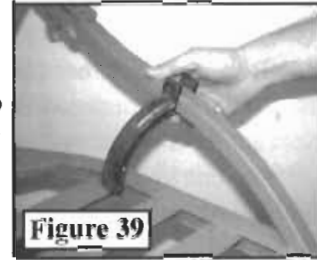
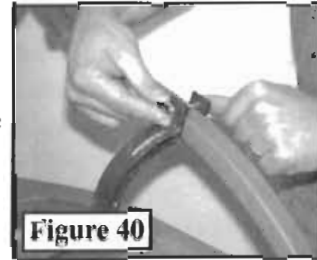
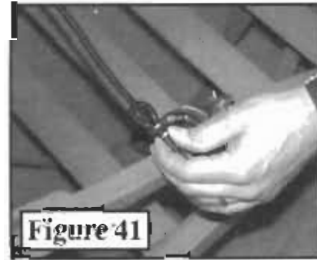

Figure 39
Figure 40
Figure 41
RapidClimb Stirrups. The two (2) RapidClimb stirrups fit on the upright (curved) arms of the platform. Simply slide one stirrup on each side of the platform such that they are on the inside of the platform and facing down as shown in **Figure 39**. Once positioned, secure with the bolt and wing nut provided as shown in **Figure 40**. Occasional readjustment may be required as your footwear needs change. Wrap the supplied bungee cord around one side of the curved platform upright bars and push the s-hook through the loop as shown in **Figure 41**. Hook the s-hook